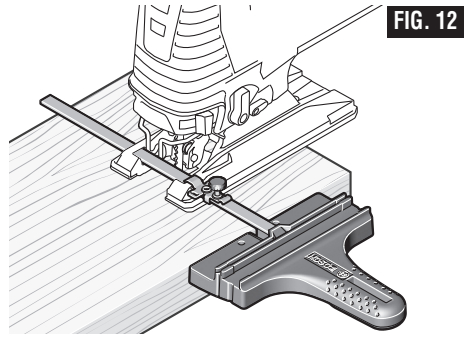

FIG. 12
1. The guide fence surface needs to be positioned **ALONGSIDE** the workpiece (Fig. 12).
4. Insert jig saw plug into power source, hold the saw firmly, squeeze trigger and slowly push the saw forward (Fig. 12).